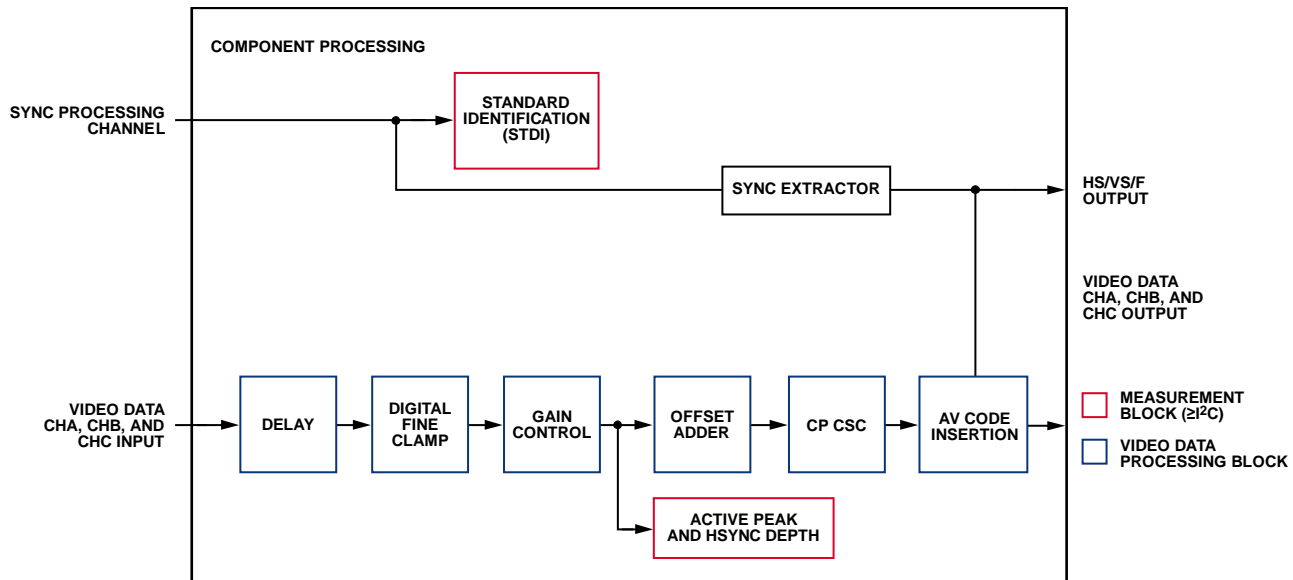

Figure 34. Component Processor Block Diagram
A simplified block diagram of the the component processor (CP) on the ADV7611 is shown in Figure 34. Data is supplied to the CP from the data preprocessor (DPP). The CP circuitry is activated under the control of [PRIM_MODE\[3:0\]](#) and [VID_STD\[5:0\]](#).